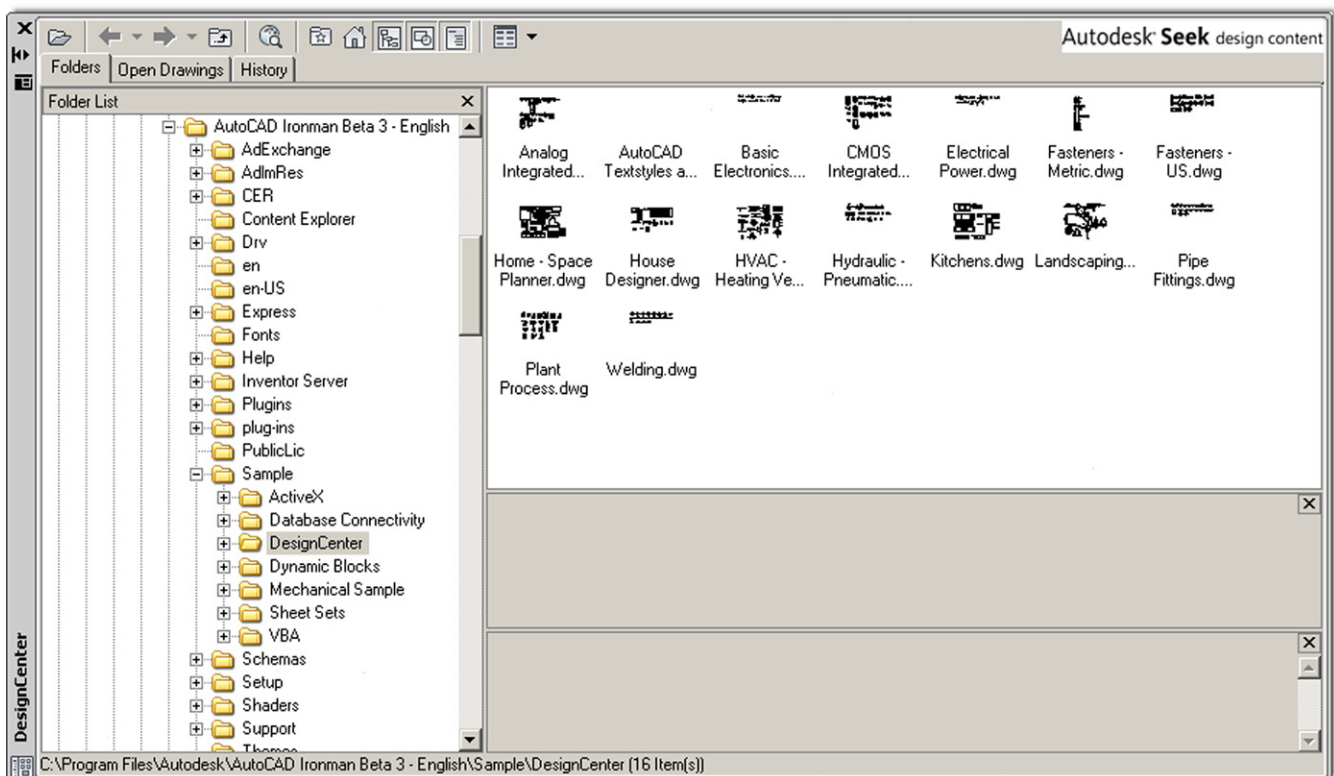

FIGURE 14.24
You can probably guess at one of the purposes of the Design Center (DC) as soon as you open it via the cascading menus Tools → Palettes → DesignCenter (also via typing in `dc` and pressing Enter, or Ctrl + 2). Be sure to dock it to the left side of the screen (if it is floating) and expand all the sections for good visibility, as shown in Figure 14.24.